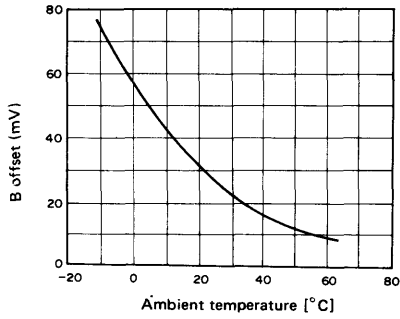

Fig. 11
- [10] Pedestal temperature characteristics (Fig. 11)